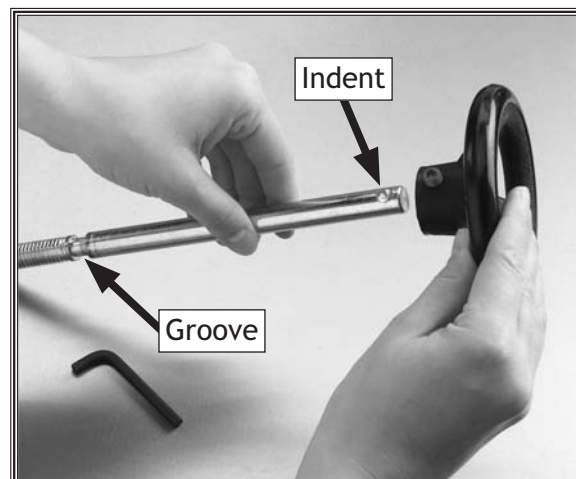

Figure 9. Attaching handwheel to fence adjuster.
1. Slide a handwheel onto a fence adjuster shaft as you align the set screw in the handwheel with the shaft indent, as shown in **Figure 9**.
2. On each side of the guard, insert a fence adjuster through the bracket, as shown in **Figure 10**, and align the groove on the shaft (see **Figure 9**) with the middle bolt.